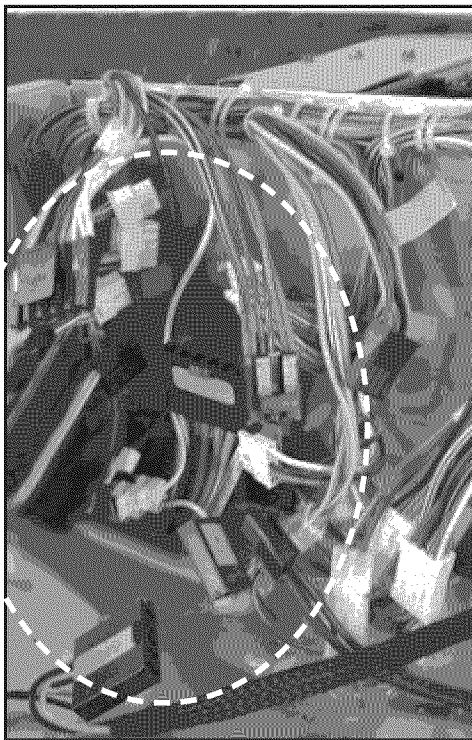

FIGURE 18
23. Disconnect 4 connectors (1 each - 2 pin, 3 pin, 5 pin, 6 pin), to allow space for service kit connections. See *Figure 18*.